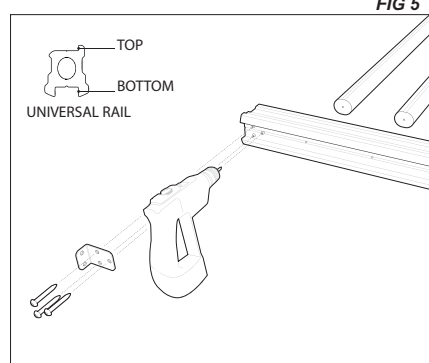

FIG 5
9. Locate the two remaining rail brackets. Pre-drill through the top three holes of the bracket into the ends of the bottom universal rails and attach with the 3 provided #10 x 1" screws. **(Figure 5)**
8. Begin to pre-drill the baluster screw holes at the same angle as the rail angle. **NOTE: Use a scrap piece of material as a jig to ensure the pre-drilled hole matches the rail angle.** **(Figure 5)**